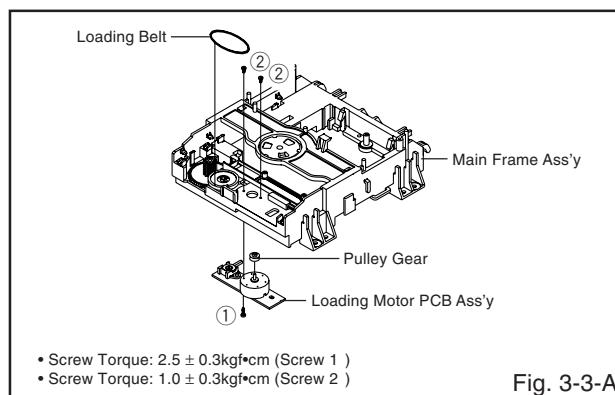

Fig. 3-3-A
### 3-3: LOADING MOTOR PCB ASS'Y/ LOADING BELT (Refer to Fig. 3-3-A)
- In case of the Pulley Motor installation, check if the value of the Fig. 3-3-B is correct.
- When installing the Loading Motor PCB Ass'y, install it correctly as Fig. 3-3-C.
- In case of the Loading Motor PCB Ass'y installation, hook the wire on the Main Frame Ass'y as shown Fig. 3-3-C.